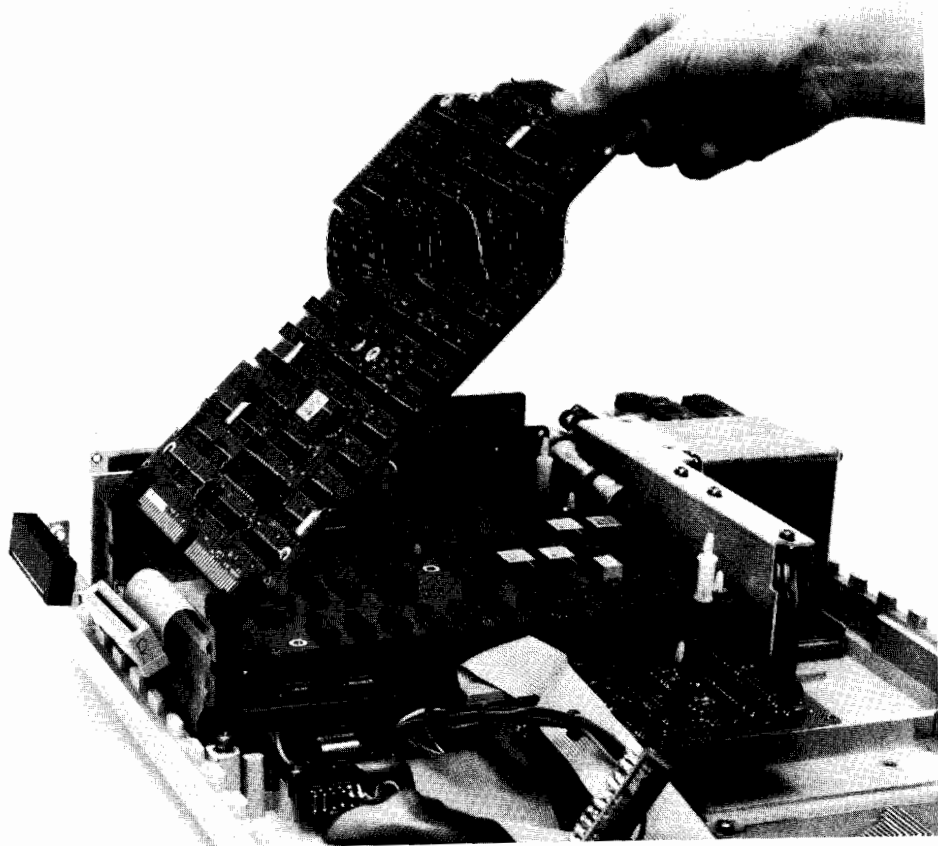

Figure 2-17 Removing a Read/Write Memory Assembly
2. Rotate the assembly upward to an angle of approximately 45 degrees as shown in Figure 2-17.